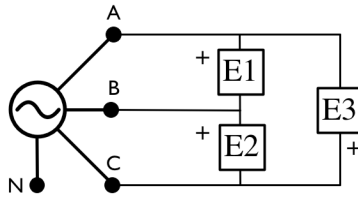

Figure 1.7: Line Voltage Measurement
- 39. With the power off, connect voltmeters E1, E2, and E3 to simultaneously measure the LINE voltages of the fixed voltage three-phase power supply, as shown in Figure 1.7.